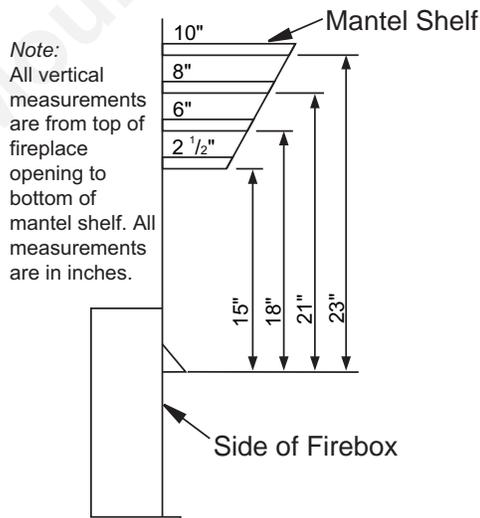

Figure 10 - Minimum Mantel Clearances for Built-In Installation
- C. For mantel clearances, see *Figure 10* on *Page 12*.